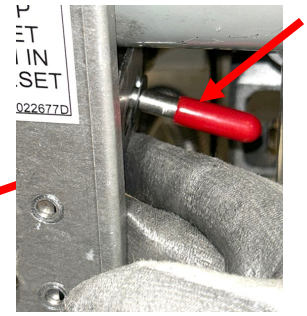

Figure 14
29. Position the bracket on the vertical support and ensure adequate clearance over the return flex line (see Figure 14).